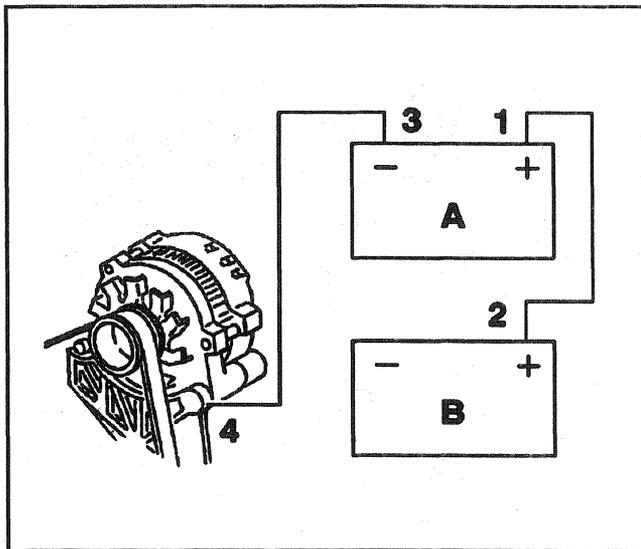

Figure 9—Installing Jumper Cables
4. Attach the end of one jumper cable to the positive terminal of the booster battery and the other end of the same cable to the positive terminal of the discharged battery (Figure 9). A is the charged battery, B is the dead battery.
6. Make the final connection of the negative cable to a solid ground (such as an A/C compressor bracket), at least 450 mm (18 inches) from the battery of the vehicle being started (Figure 9).